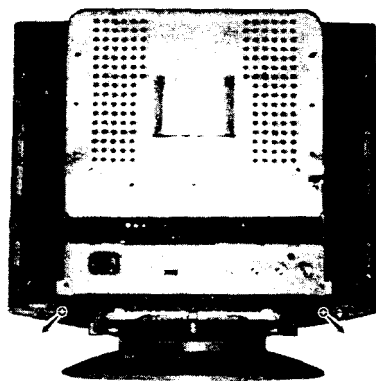

Figure 5-2.
2. Position the cabinet bottom and replace the two screws (see figure 5-2).